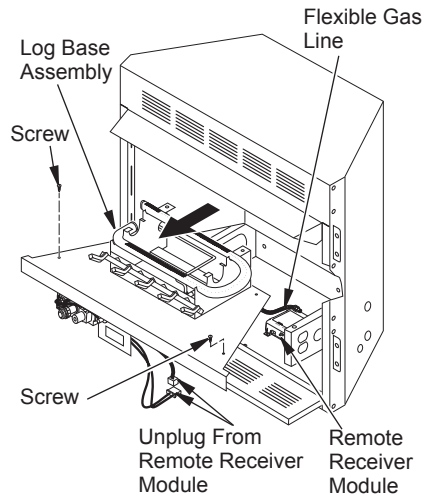

Figure 21 - Removing Log Base Assembly From Fireplace
2. Open lower louver door. Carefully pull straight out on the wire harnesses attached to right side and front of remote receiver module (see Figure 21).
3. Remove screws that attach log base assembly to fireplace (see Figure 21). Carefully lift up log base assembly and remove from fireplace (see Figure 21).